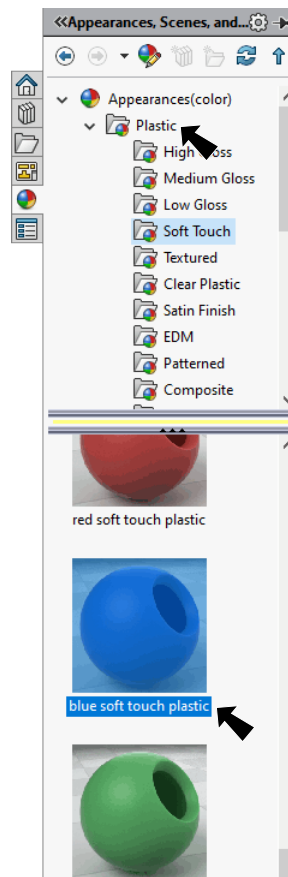

Fig. 13
Step 2. In the Appearances Task pane , expand **Plastic**, click **Soft Touch** and in the lower pane select **blue soft touch plastic**, Fig. 13.